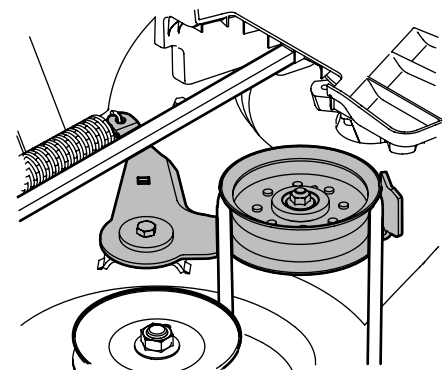

Figure 4-3
8. Working on the right side of the tractor, insert a ¾" drive ratchet wrench, set to *tighten*, into square hole found on the idler bracket. See Figure 4-3.
- Pivot the wrench forward to move the deck drive pulley forward. See Figure 4-3.